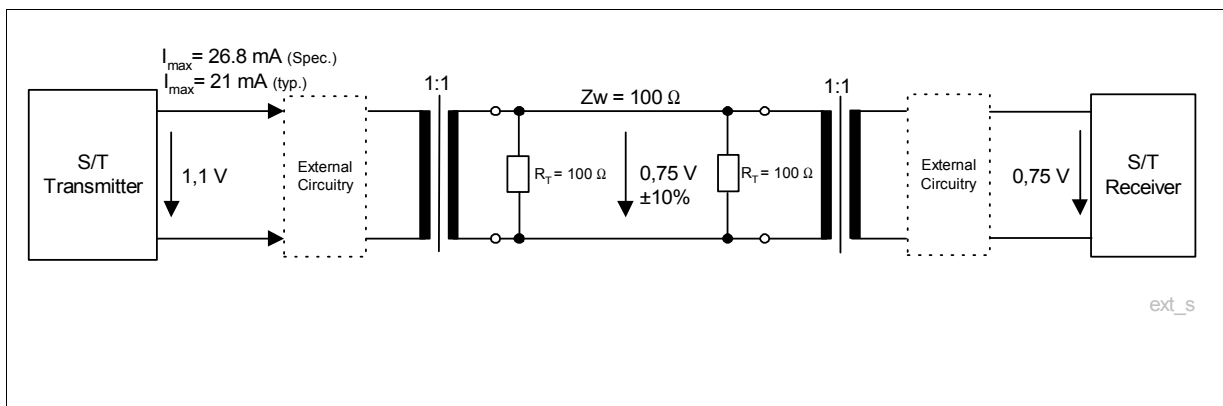

**Figure 28 External Transceiver Circuitry of the VIP in UPN Mode**
A transformer, external resistors and two capacitors (100 nF and 0.33 μF) are connected externally to the line interface pins Llna,b. Voltage overload protection is achieved by adding clamping diodes (see **Figure 28**).
*Note: The resistor values in **Figure 28** are optimized for an ideal transformer ( $R_{Cu} = 0$ ). The 0.33-μF capacitance will be verified during system tests.*